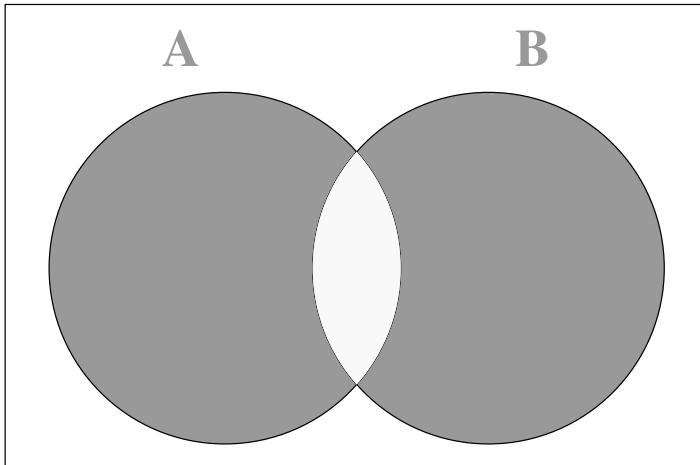

Fig. 3.27: Venn Diagram
46. The Boolean expression for the shaded regions as shown in Fig. 3.27 is \_\_\_\_\_.